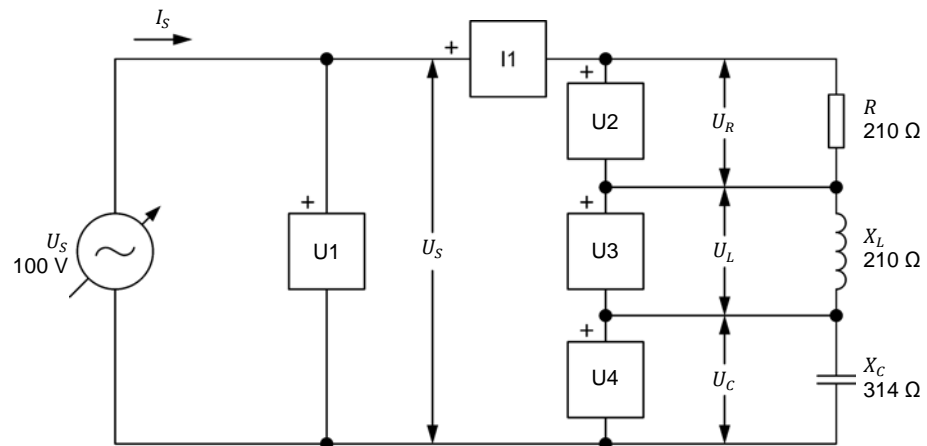

Figure 4-6. Series ac circuit containing a resistor, an inductor, and a capacitor, and set up for circuit analysis.
11. Set up the circuit shown in Figure 4-6.
12. Resolve the entire circuit shown in Figure 4-6 using the impedance calculation method.